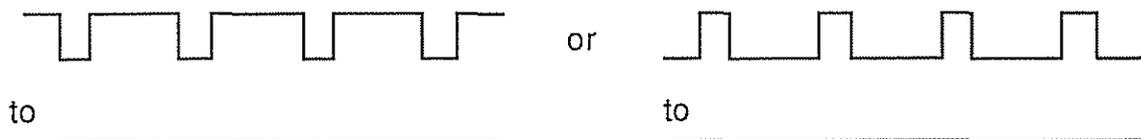

Fig 4.9
4. With  $SW_A$  still closed adjust 'LINEARITY',  $R_{35}$ , to remove remaining pedestals as in fig 4.9.